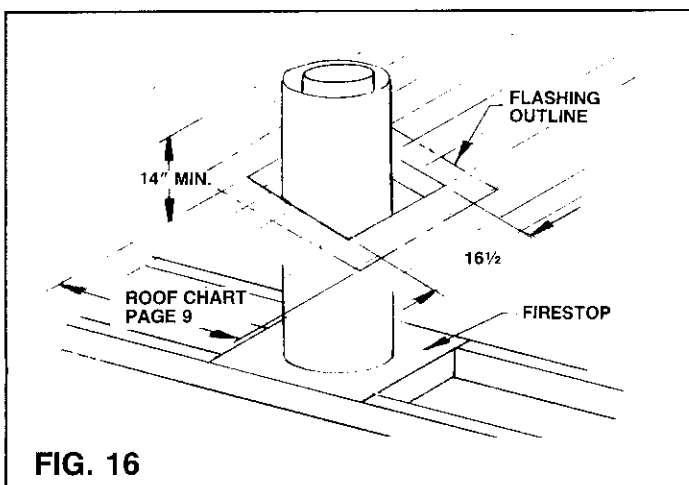

FIG. 16
STEP 5: After cutting the hole in the roof, uncover the pipe and add sections until the chimney extends a minimum of 14 inches above the highest point of the roof cutout (Fig. 16).
STEP 6: Position the flashing over the chimney and flat on the roof. Mark an outline of the flashing on the roof and remove the flashing. Remove all nails within the outlined area (Fig. 16).